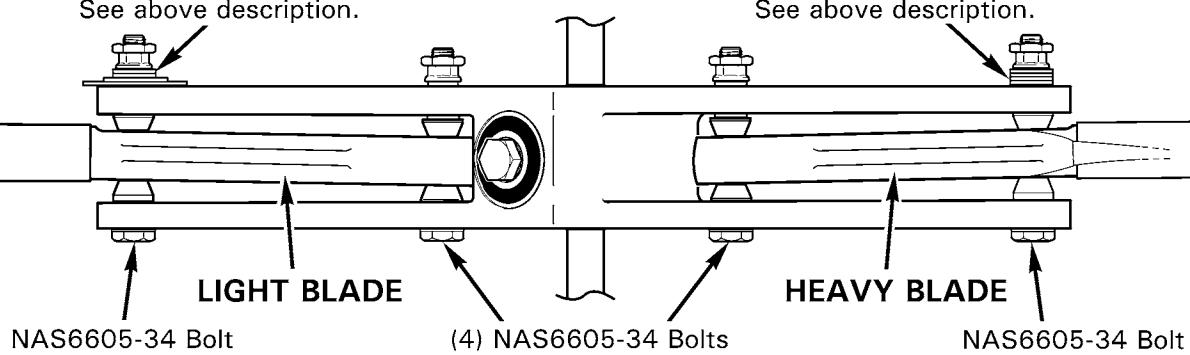

FIGURE 9-14 SPANWISE STATIC BALANCE
1. Refer to Figure 9-14. Install standard hardware for initial spanwise static balance check. Standard torque fasteners per Section 1.320.